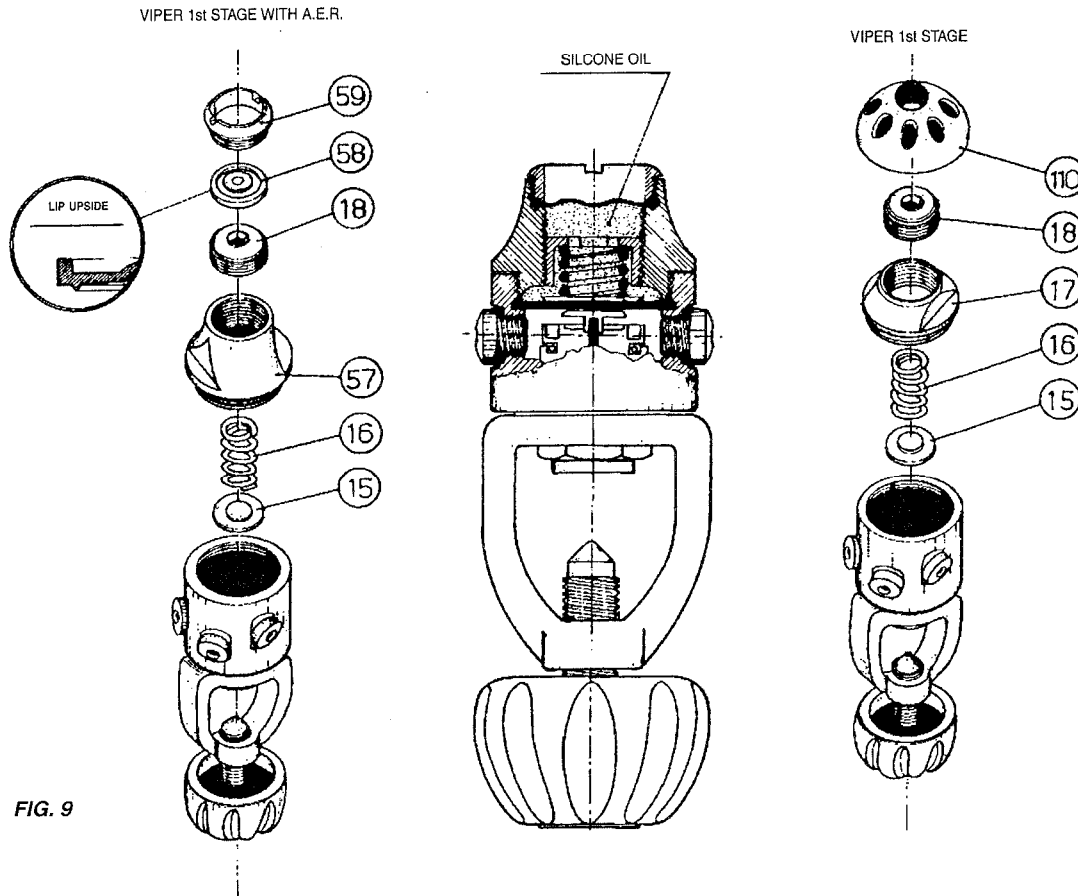

FIG. 9
22. Fit the A.E.R. A.E.R.kit diaphragm (58) inside the A.E.R. A.E.R.body (57) orienting it correctly (with the edge facing upward) on the seat of the A.E.R. A.E.R.body (See Fig. 9).